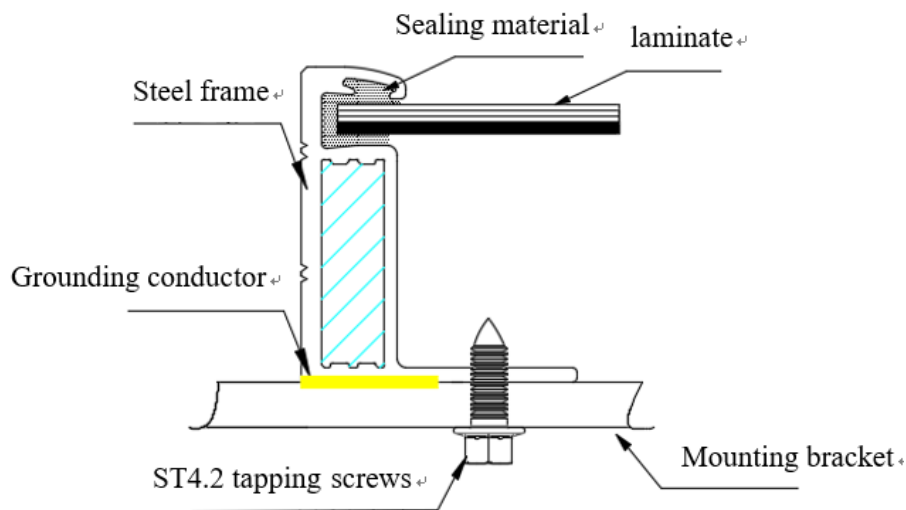

Fig.11.2 ST4.2 tapping screws grounding
- On a grounding hole with a diameter of $\phi 4$ mm, use a separate grounding wire and related accessories to connect the frame and connect the grounding wire to the ground. M4 x 12mm ground bolts with M4 nuts, star washers and plain washers are recommended for the aluminum frame, M4 tapping locking screws or ST4.2 tapping screws are recommended for high-strength alloy steel frames, see fig.11.2, this ensures that the modules are firmly grounded. You can find the corresponding product drawing in module datasheet to know the detailed number, size and position of the grounding holes. The torque applied to ground fixation is 4N·m~8N·m.